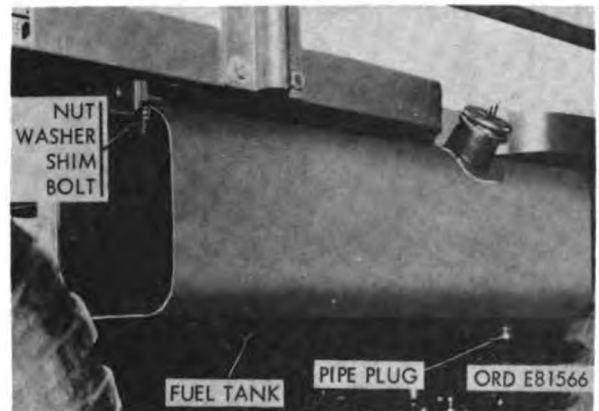

Figure 2-21. Location of pipe plug and flathead bolts.
- (1) The fuel system includes the fuel tank (fig. 2-21), shutoff valves, filters, lines, pump, carburetor, air cleaner, rain deflector and pre-cleaner, hose, and controls.
- (2) The fuel tank is located at the left side of the vehicle under the platform and includes an impregnated paper filter. The fuel filter cap is equipped with a level gage and vent valve.
- (3) Carburetor control is through flexible cable to the accelerator and hand throttle at the front of the vehicle.
- (1) Remove hex-head pipe plug at bottom of fuel tank, to drain fuel (fig. 2-21).
- (8) Remove four nuts, plain washer, shims, and flathead bolts (fig. 2-21) securing fuel tank to platform.